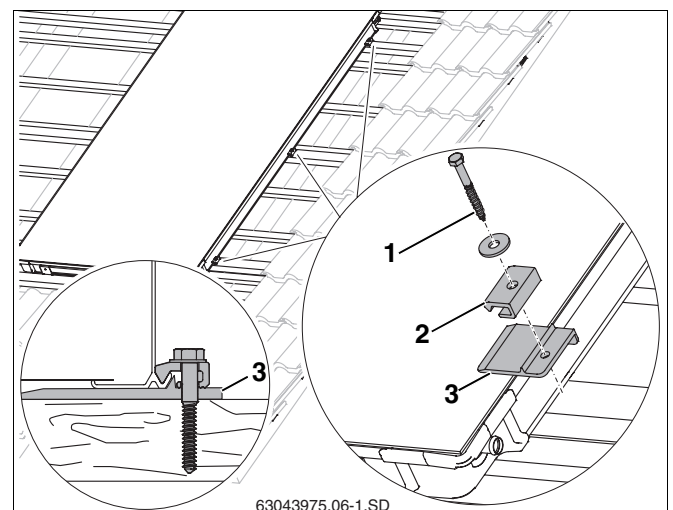

Fig. 25 Laying first collector and screwing in place
- ▶ Lift collector slightly and, on the 2nd and 3rd additional battens, as well as halfway along the collector on a free batten, push the right-hand pack plates (Fig. 25, **Item 3**) under the collector until the roof pushes against the lower edge of the collector.
- ▶ For the screw (Fig. 25, **Item 1**) drill a pilot hole with a 4 mm drill.
- ▶ Fasten the single-sided clamps (Fig. 25, **Item 2**) with a 6x40 screw (Fig. 25, **Item 1**) and washer (use size 10 spanner).